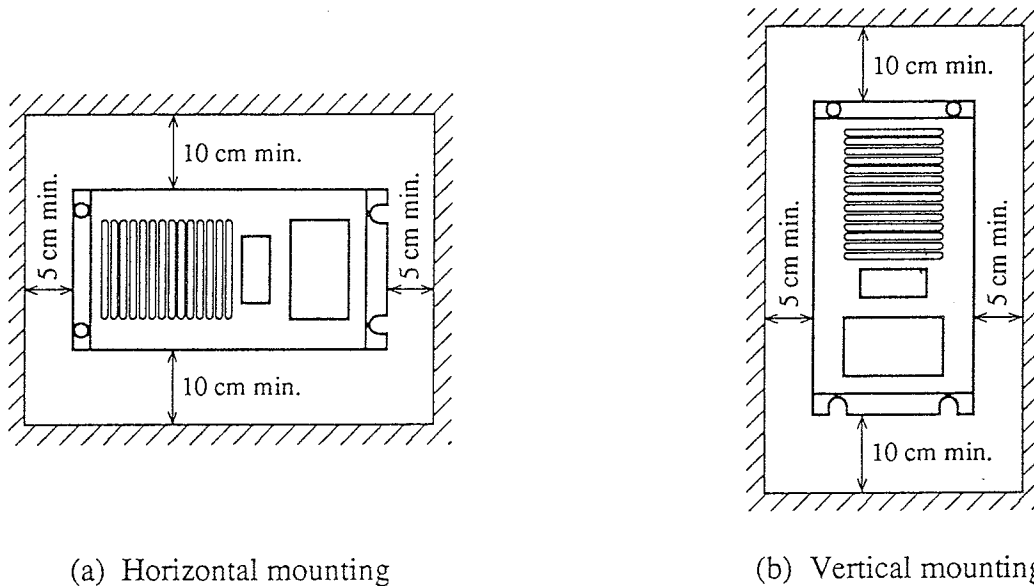

Fig. 3.1 Ambient Space When the Dynamic Braking Unit is Installed
- (1) Install the dynamic braking unit on a wall in the mounting state according to Figs. 3.1 (a) and (b) so that it is at a distance of at least 10 cm in the vertical direction and at least 5 cm in the horizontal direction from other devices in a well-ventilated conductors